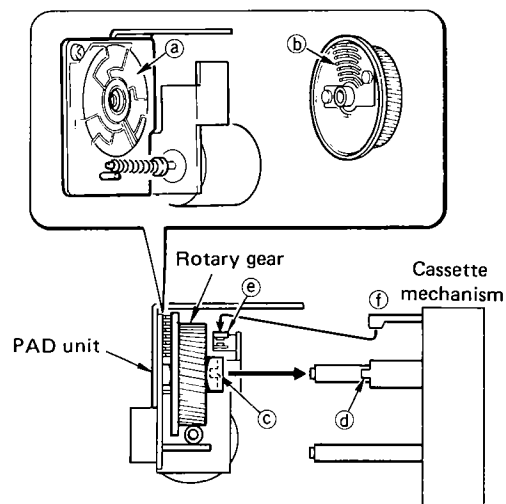

Fig. 12
NOTE ON ASSEMBLING PAD UNIT (Fig. 12)
- Remove extraneous matter such as dust and oil from ① and ② parts (Rotary switch section)
- For inserting, be sure to align ③, ④, ⑤ and ⑥ correctly. (Fig. 12)